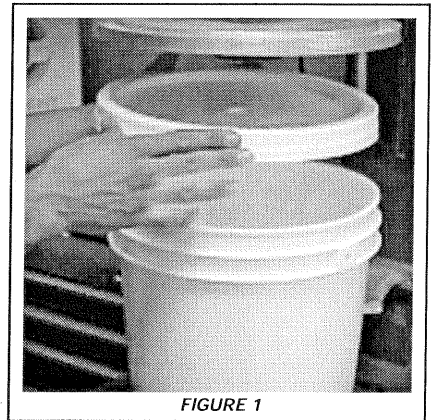

FIGURE 1
1. Begin by placing the cover over the pail. (Fig. 1)